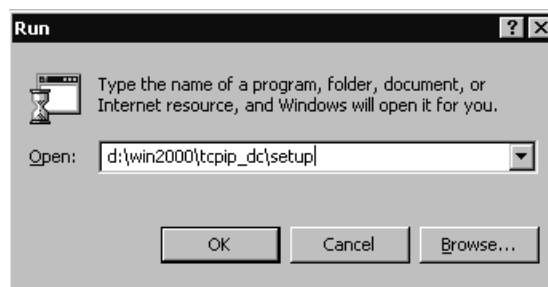

Figure 6-3. Running TCP/IP Direct Connect Setup
1. Insert the software CD into your server's CD-ROM and invoke the setup program in the WIN2000/TCPIP_DC directory (see Figure 6-3).